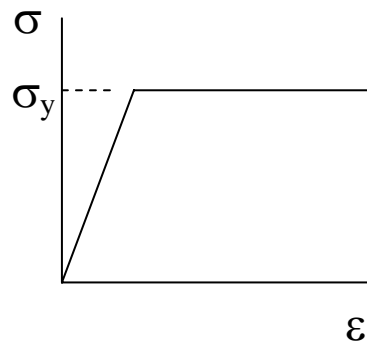

Figure 1-3
- g. Now suppose that the plate material can undergo plastic flow at a yield strength  $\sigma_y$  (see Figure 1-3), while the inclusion remains linear elastic. Assume the plate material is elastic-perfectly plastic (see below). If the inclusion has the same stiffness as the matrix and is perfectly bonded for the upper right case, draw the remote stress-strain curve for each plate shown above. Is the fully plastic limit load the same for both cases? Explain.